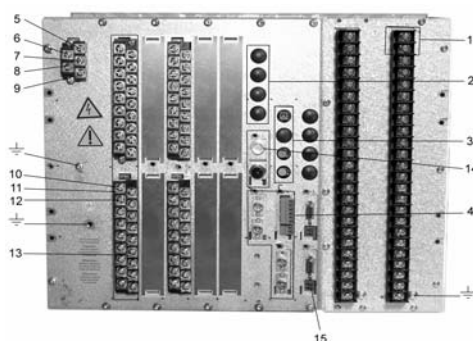

Figure 4: Connection example.
2. The optional communication board for communication between IEDs or to remote line end is available on ports X312, X313, X302 and X303 as ordered. See figure 4 for details.
3. Communication interfaces for LON, IEC 61850-8-1, SPA/IEC 870-5-103 or DNP according to included options. One or two optical ethernet ports (X311) exist for communication to substation control systems and substation monitoring systems. Two optical ports (X301) for LON, SPA or IEC 870-5-103 communication can be included. LON plus any of the other protocols can be included. See figure 4 for details.
5. The IO board connectors for IOM, BIM or BOM as ordered. Starting with slot 3 (Connectors X31, X32) seen from the rear left side they are equipped as ordered. Check the ordering document. Binary inputs have auxiliary voltage levels as ordered and are designed to bridge initial contact resistance in external contact. See figure 4 for details.
6. The Power Supply Module (PSM) provides the boards with power. Depending on the PSM ordered, the rated input voltage range is 24-60 VDC or 90-250 VDC with a tolerance of 20%. See figure 4 for details.